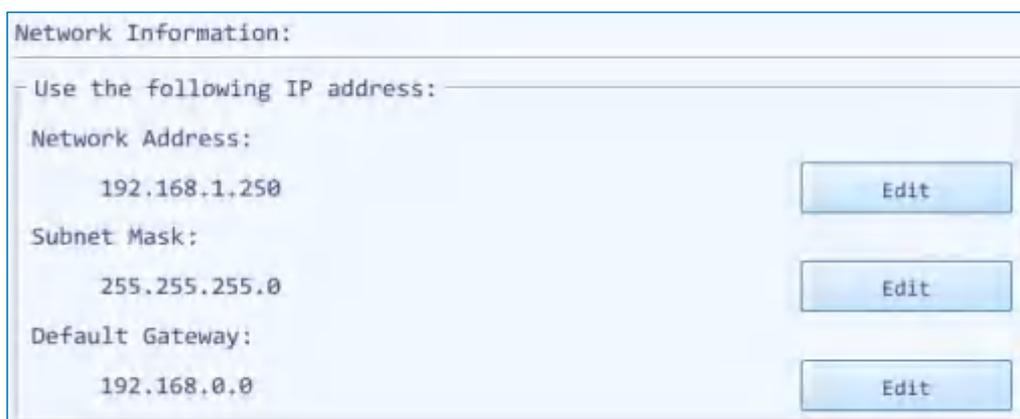

Figure E-6.2a. Configuration sub-tab - Network Information window
- **Network Information:** display the network information of the current real-time PCR system. User can press < **Edit** > and the instrument software will pop up the network information window, as shown in figure E-6.2a.